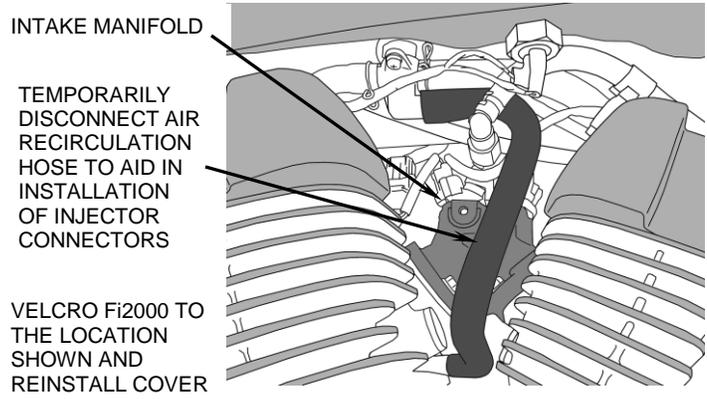

FIGURE 2
4. Disconnect air recirculation hose to gain access to stock fuel injectors, see Figure 2.